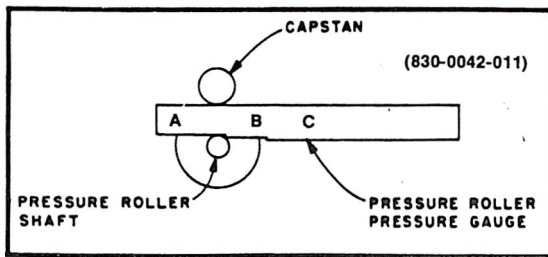

Figure 3-3
2. With the solenoid engaged and the plunger bottomed, place gauge 1st step — (Dimension A) end between the pressure roller shaft and capstan shaft. (See Figure 3-3.)